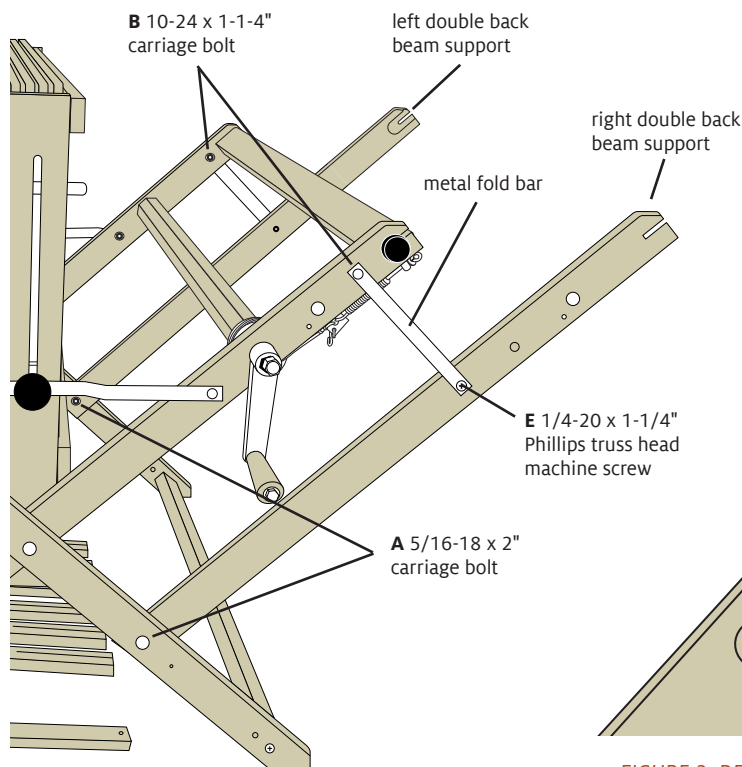

FIGURE 2: DOUBLE BACK BEAM SUPPORTS
1. Insert a 10-24 x 1-1/4" carriage bolt through the square hole in a metal fold bar, then install a 1/4" USS washer on the carriage bolt. Insert the carriage bolt through hole [B] in each inside leg from the outer side of the loom (Figure 2). The fold bar will hang straight down behind the loom's warp beam. Install another 1/4" USS washer and a 10-24 lock nut on the carriage bolt from inside the loom. Tighten the lock nut so that the metal support pivots freely, but not loosely. Repeat on the other inside leg.
2. From the outside to the inside of the loom, insert a 5/16-18 x 2" carriage bolt through hole [A] in each outside leg (Figure 2).